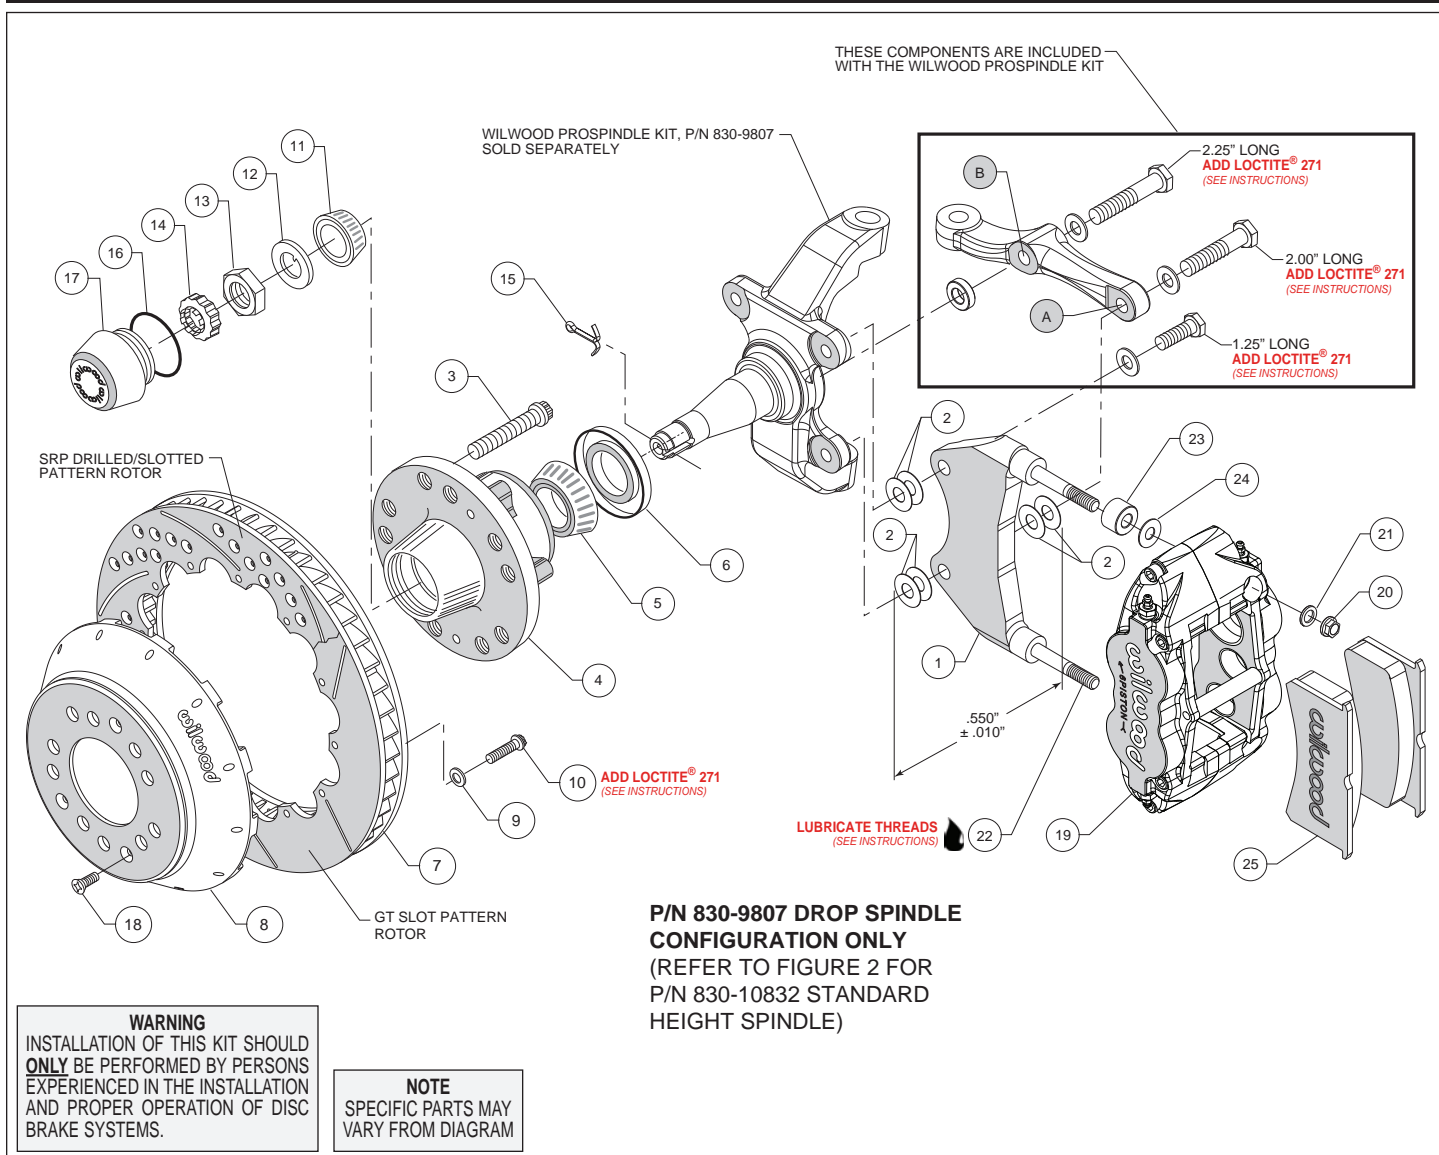
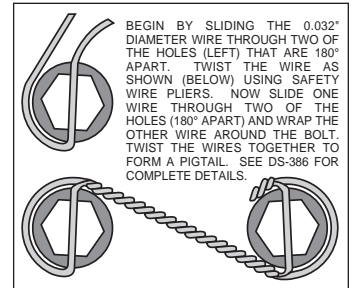

Figure 1. Installation Configuration For Drop Spindle, P/N 830-9807
Figure 4. Safety Wire Diagram
Assembly Instructions (numbers in parenthesis refer to the parts list and Figures 1 or 2 on the preceding pages):
- NOTE:** Each Wilwood ProSpindle kit includes bolts, washers, and a spacer to mount the steering arm and caliper bracket. The various bolts are identified by length in the following instructions and in Figures 1 and 2.
- Orient the bracket as shown in Figure 1 and Photo 1. Install at top spindle hole using 1.25" long bolt and .06" thick washer (from ProSpindle kit), and two .016" thick shims (2) between the bracket and spindle, Figure 1.
- Orient the steering arm, and identify the hole marked 'A', as shown in Figure 1. Install at bottom spindle hole using 2.00" long bolt and .06" thick washer (from ProSpindle kit), two .016" thick shims (2) between the bracket and steering arm, and another two .016" thick shims (2) between the bracket and spindle, Figure 1. The bracket is located between the steering arm and spindle. **NOTE:** The bracket and shim washers must add up to a total thickness of .550" \pm .010", Figure 1.
- Finish attaching the steering arm through the hole marked 'B', as shown in Figure 1. Install using 2.25" long bolt, .06" thick washer, and .25" thick spacer (all from ProSpindle kit), Figure 1.
- Install the grease seal (6) by pressing into the backside of the hub (4), Photo 4.
- Orient the rotor (7) and the hat (8) as shown in Figures 1 or 2, and Photo 5. Attach rotor to hat using bolts (10) and washers (9). Using an alternating sequence, apply red *Loctite*® 271 to the threads, and torque to 155 **in-lbs**. For an added measure of security, the bolts may be safety wired using standard 0.032 inch diameter stainless steel safety wire as shown in Figure 4. Refer to Wilwood's data sheet DS-386 (available at www.wilwood.com/Pdf/DataSheets/ds386.pdf) for complete safety wire installation instructions.
- Screw dust cap (17) into hub (4), Photo 7. Friction created by the o-ring (16) on the dust cap keeps it from unscrewing.
- Slide the hat/rotor assembly (7/8) onto the hub (4) taking care to align the small countersunk holes in the hat with the small threaded holes in the hub. **NOTE:** The hat must fit flush against the hub face or excessive rotor run out may result. Install three flat head screws (18) through the small holes in the hat (8), Photo 7, and torque to 85 **in-lb**.
- NOTE:** This kit contains distinct right and left hand calipers that must be mounted in a specific direction, as described below. Lubricate the caliper mounting studs (22) with lightweight oil. Initially place one .035" thick shim (24), and spacer (23) on each stud as shown in Figure 1 or 2, and Photo 8. Mount the caliper (19) onto the bracket (1) using lock nuts (20) and washers (21), Figure 1 or 2. Ensure that the caliper is mounted so that the largest pistons are at the rotor exit end of the caliper, in relation to the direction of rotor rotation. Temporarily tighten the lock nuts and view the rotor through the top opening of the caliper. The rotor should be centered in the caliper, Photo 9. If not, proceed as follows:
- For the lower bracket mount bolt, if a shim was added between the bracket and spindle, then a shim must be removed between the steering arm and bracket, such that the total thickness of bracket and shims remain equal to $.550 \pm .010$ ", Figure 1.